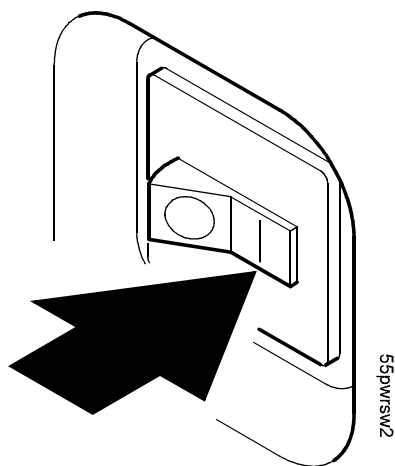

Figure 29. Power Switch Turned OFF
1. Verify that the voltage source at the printer site conforms to the requirements specified on page 28. Make sure that the printer power switch is set to OFF. See Figure 29 on page 54.
3. Make sure that the printer power switch is set to OFF. See Figure 29 on page 54.